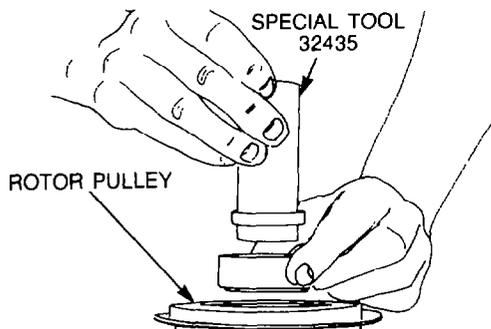

Figure 35 — Rotor Pulley Ring Tool — Installation
- j. Position the ring (part of special tool 32435) into the bearing cavity, ensure the outer edge rests firmly on the rotor pulley bearing outer race (see Fig. 35).